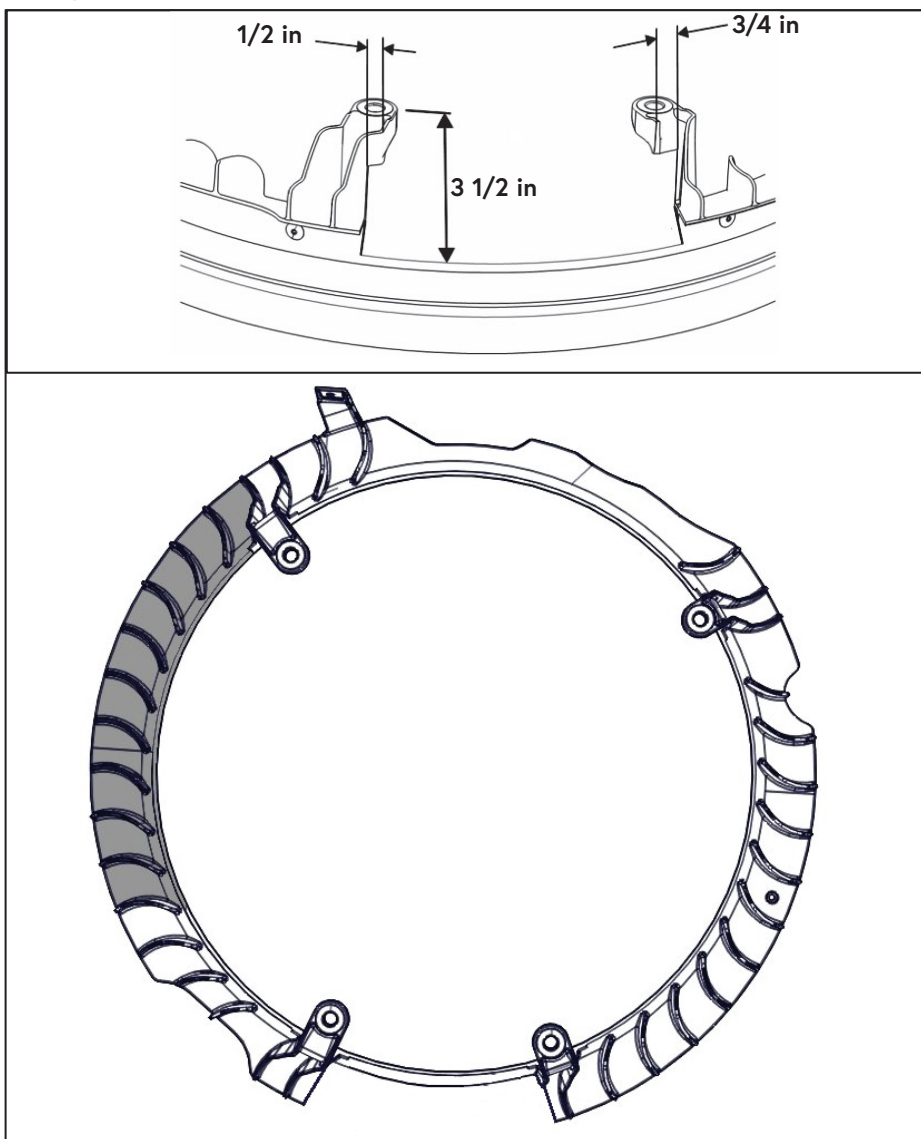

Figure 39 — Stator modifications
- ☐ Cut a relief for the VMAC crank pulley between the (x2) lower stator mounts (Figure 39).
- ☐ From the bottom left stator mount, count (x4) vanes in a clockwise direction and mark the left side of the vane with a grease pen. (Figure 39).
- ☐ Remove the material between the marked lines (Figure 39).